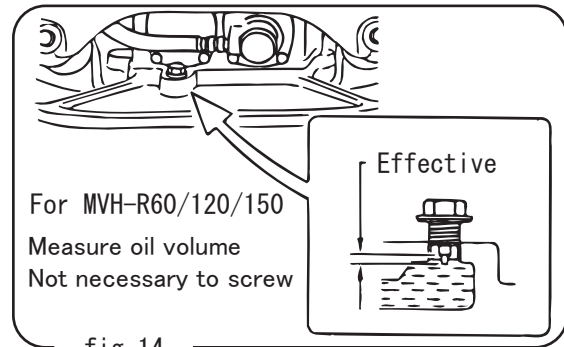

fig.14
6. Vibrator oil level check (Fig.14)